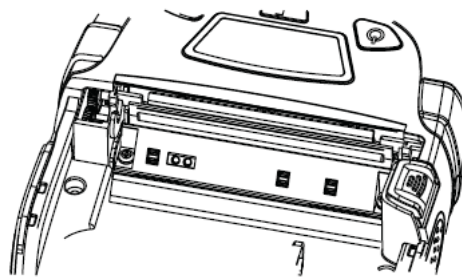

Fig 1
2. Cleaning of printer mechanism: The printer mechanism must be cleaned regularly, especially when the print quality declines. The cleaning method is as follows: Use absorbent cotton moistened with anhydrous alcohol to gently wipe the area marked with a gray box as shown in Fig. 1 until it is clean.